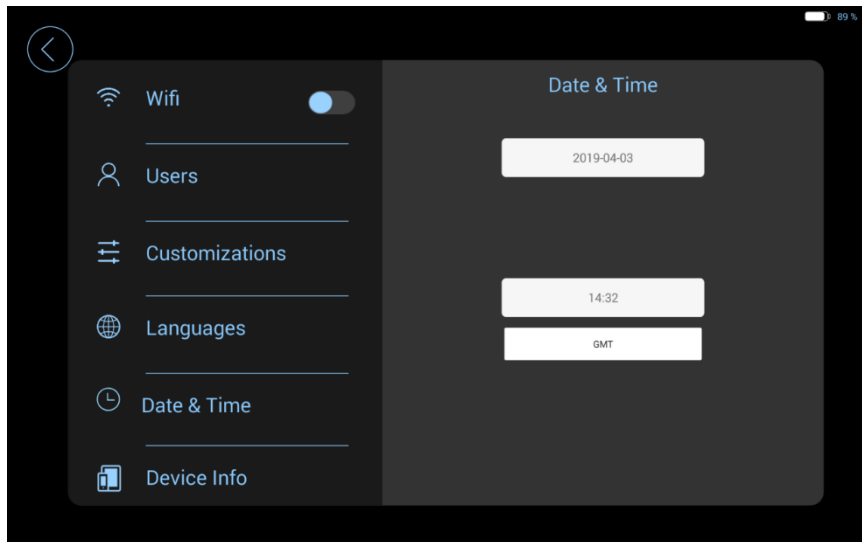

Figure 17. Time settings screen
17. Click Date & Time: Time setting to set the date and time and time zone (Figure 17).